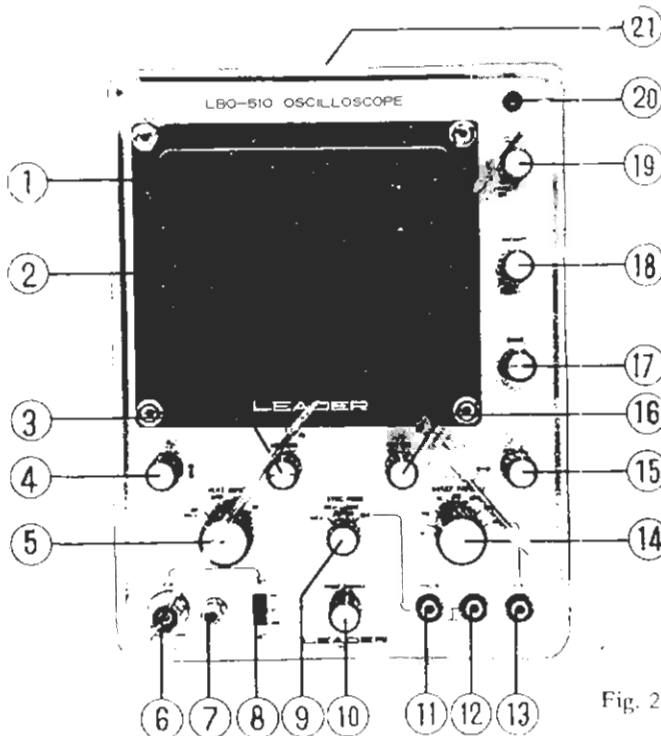

Fig. 2-1 Front Panel
2.1 Front Panel, see Fig. 2-1.